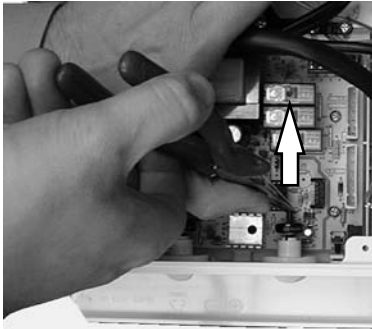

Figure10
- 3) Remove the spindles of the c.h. temperature adjustment knob by delicately pulling it with pliers in the direction shown by the arrow in Figure 10.